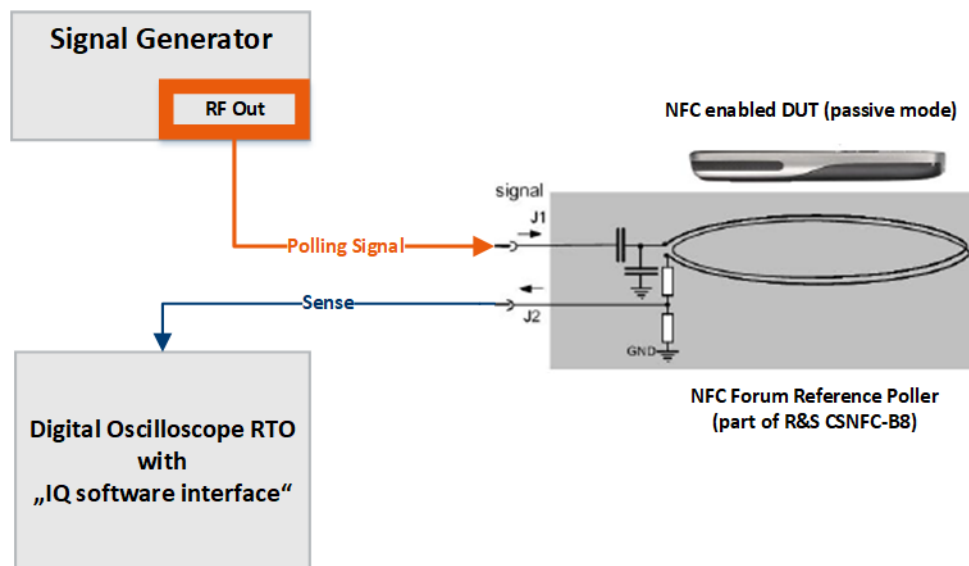

Figure 6-2: Test setup for an NFC mobile phone in listening mode (simplified schematic).
1. Connect the RF Out connector of the R&S SMM100A to the X1 connector of the NFC Forum reference poller, see Figure 6-2.